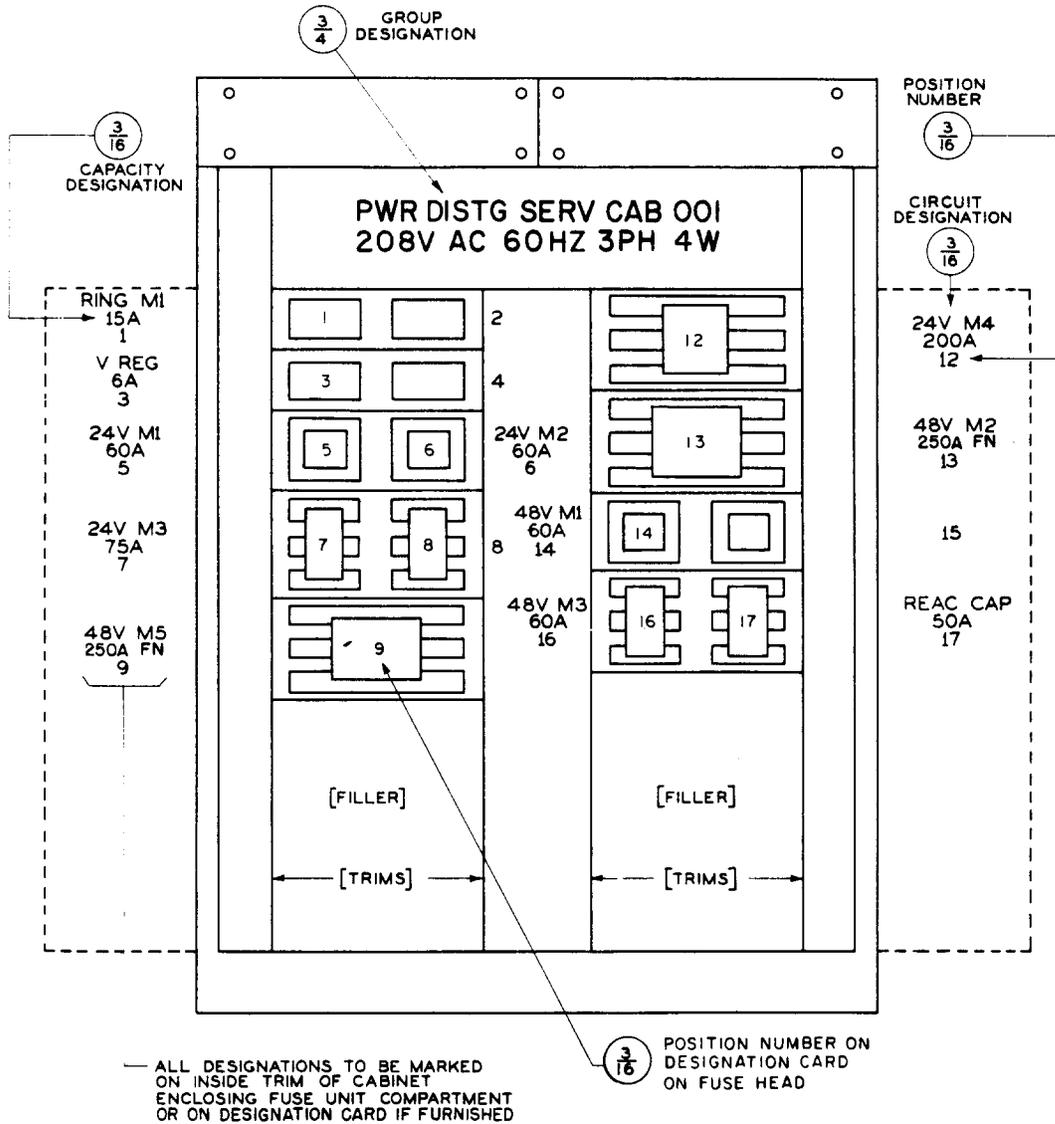

Fig. 29 - Power Distributing Service Fuse Cabinet -
2.37 Fuse Cabinets: Power distributing fuse cabinets shall have the name and number of the cabinet and voltage and type of service stamped in abbreviated form on the trim above the door, or if no room in the case of small cabinets, on the door itself. Examples of these designations are PWR DISTR SERV CAB 001 208V AC 60HZ 3PH 4W. Use 3/4-inch characters unless small size of wall cabinet makes it necessary to use 3/8 inch. The cabinet number shall consist of three or four digits, the first digit or first two digits to designate the floor number and the last two digits to designate the number of cabinet on floor. Typical cabinets are shown in Fig. 29 and 30. Stamp the name of the circuit with which each set of fuses is associated, the fuse capacity in amperes, and also the fuse position